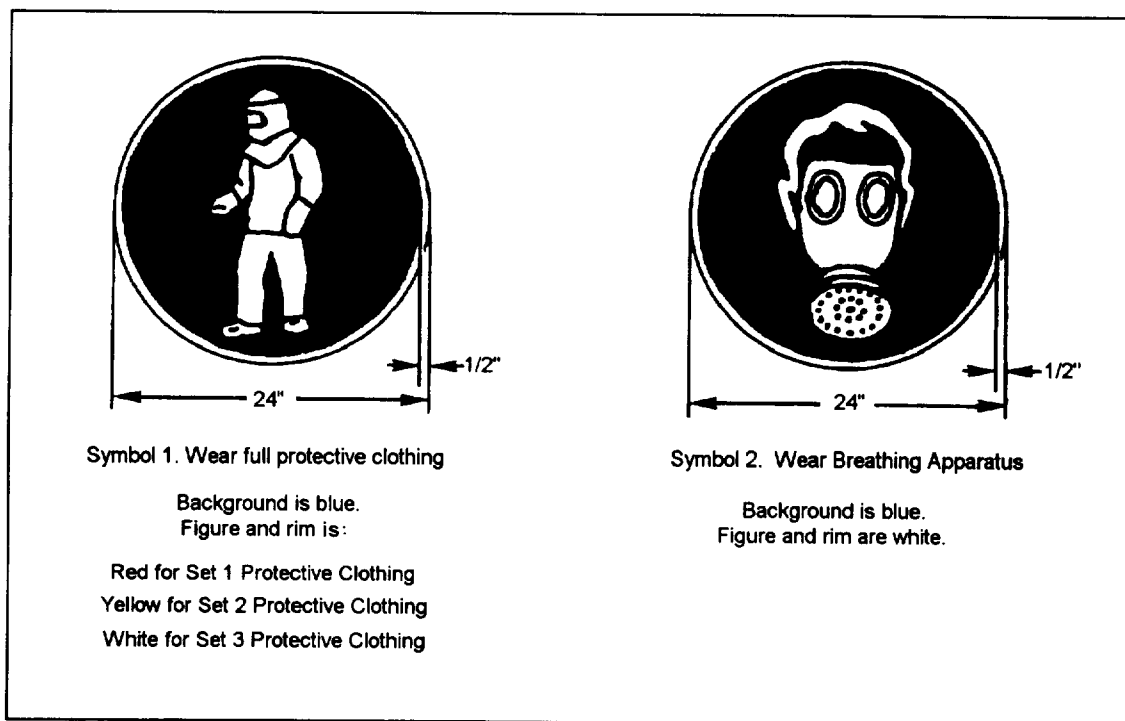

Figure 2-2.—Chemical hazard symbols.
**CHEMICAL HAZARD SYMBOLS.**— Chemical hazard symbols are used to identify operating buildings and storage facilities that contain pyrotechnics and chemical munitions or agents and other hazardous materials. They may be used by themselves or in conjunction with fire symbols, as appropriate. These symbols, shown in figure 2-2, are used specifically for fire-fighting situations and are not necessarily applicable to normal operating conditions. The hazard each symbol